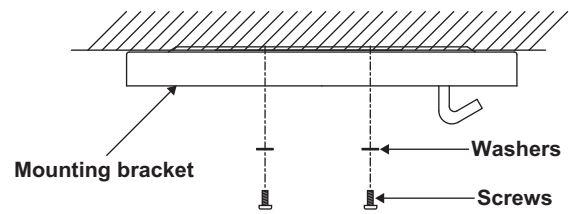

Figure 1
Step 2. Attach the mounting bracket to the ceiling. For best performance be sure the mounting bracket is level and secured firmly against the ceiling. You may need to insert additional washers (not provided) between the ceiling and mounting bracket to make it level. (Fig. 1).